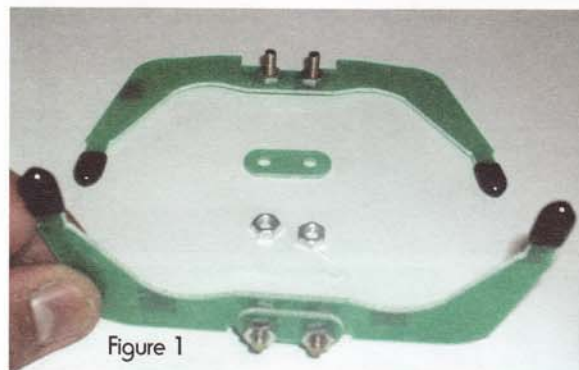

Figure 1
Collect together Middle Motor (2) and Striker plate (8). You will also need 2 x screws (14). Finally 1 x screw (17). See Figure 1.